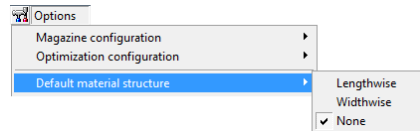

Fig. 35 – selection of default material structure
3) **'Default material structure'** – allows to define the default material structure (Fig. 35).